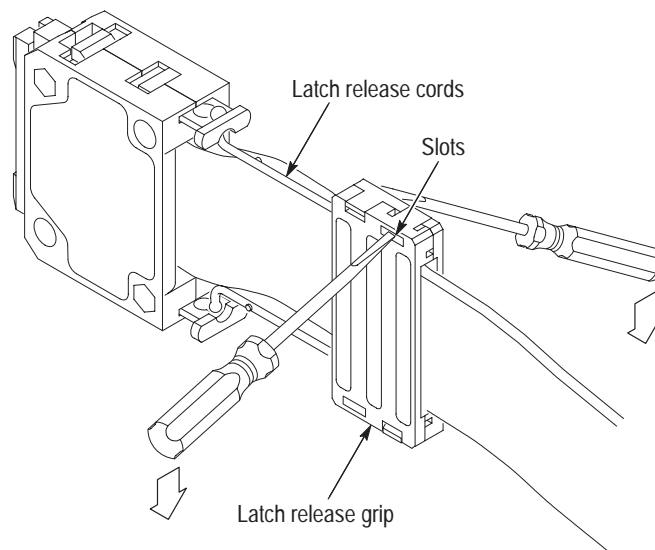

Figure 16: Disassembling the latch release grip
1. Use two small, flat-bladed screwdrivers in the slots opposite the tabs on each side of the grip as shown in Figure 16.